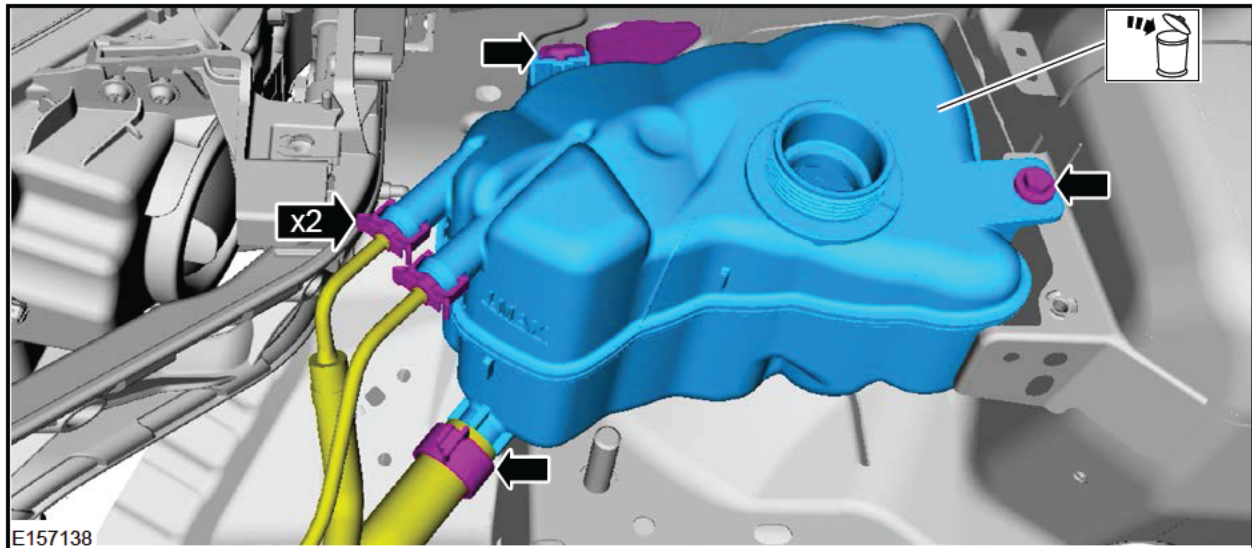

FIGURE I2
1. Remove and discard the degas bottle and cap. See Figure I2.